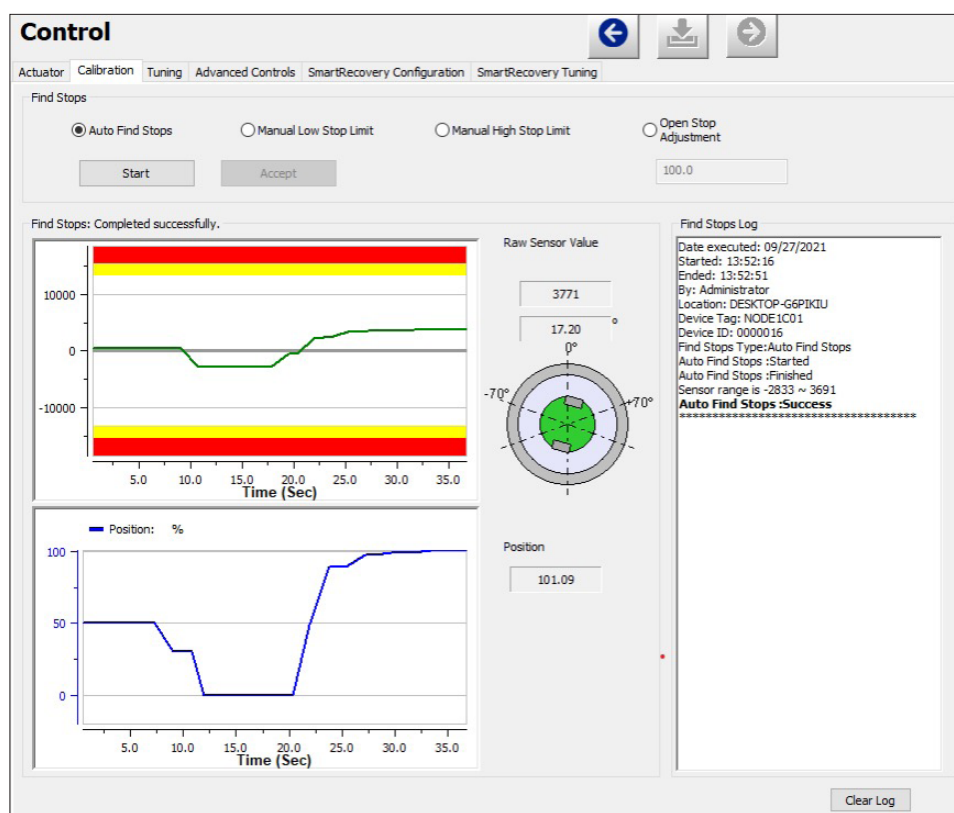

Figure 52 - Advanced Setup: Control: Calibration
See Figure 52 for a full description of functionality.
Use this graph to graphically see the position versus time during the Find Stops procedure. See Figure 52
3. Click  , the two graphs beginning showing results, the *Find Stops Log* lists detected values, test results appears (Figure 52) and if the test fails a list of reasons.